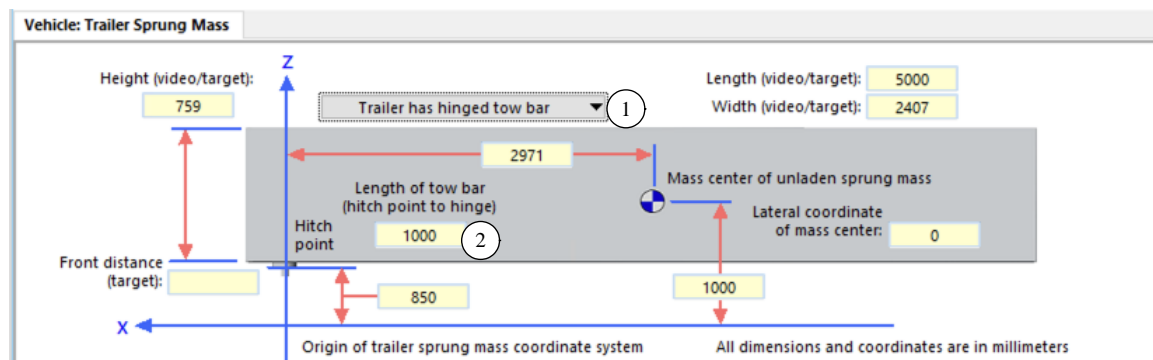

Figure 24. Drop-down control and field to specify a hinged tow bar.
2. The trailer sprung mass screen needs to be configured for the tow bar by selecting the option **Trailer has hinged tow bar** from the drop-down list control (1) (Figure 24). This will present a yellow field, allowing the length of the tow bar to be entered with units of mm (2).